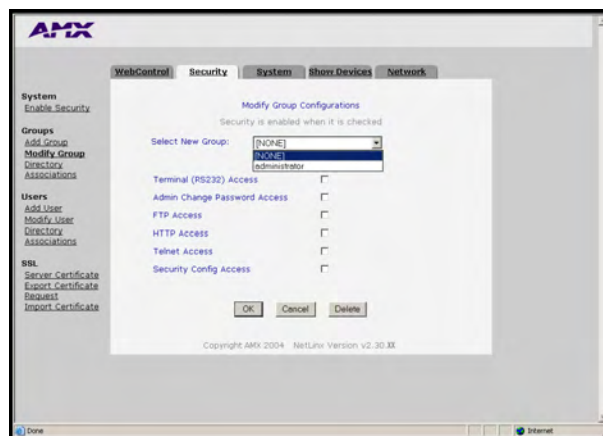

FIG. 50 Security tab - showing the Modify Group access rights fields
2. Click the **Modify Group** link (on the left of the browser window) to populate the Security tab with the access rights fields associated with the selected group. (FIG. 50).
1. Click on the **Security** tab (FIG. 50).